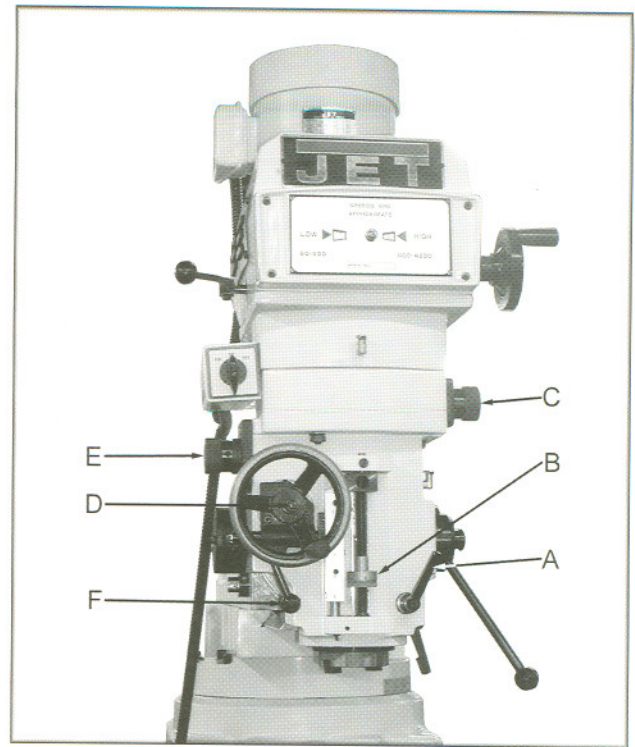

Fig. 8
1. Ensure quill lock (A, Fig. 8) is off by rotating counter-clockwise.
2. Set micrometer dial (B, Fig. 8) to desired depth.
3. Engage auto quill feed knob (C, Fig. 8) by turning so pointer indicates towards the rear of the machine.
4. Select feed direction by pulling or pushing the knob (D, Fig. 8) for up/down feed, neutral is in the middle.
5. Select feed rate from feed selector knob (E, Fig. 8) 0.0015", 0.003", and 0.006" per spindle revolution. It is easier to change feed rate while the spindle is turning.
6. Engage feed trip lever (F, Fig. 8) by pulling away from head assembly.